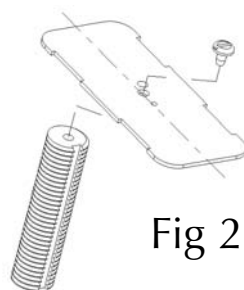

Fig 2
1. Thread the Rear Elevation Lock Nut (B) onto the threaded shank of the Rear Elevation Foot (A). Position the Nut at approximately the halfway point of the Foot shank.
2. Thread the Rear Elevation Foot into its corresponding mount at the bottom rear of the Frame and Brace Assembly (C) until the Nut makes contact with the Frame.
3. Slide the Shot Tray (D) between the upper and lower sections of the Frame with the 4 holes in line towards the front. Align the holes of the Tray with the holes in the Frame, insert four Shot Tray Retention Screws (E) through the Tray and the Frame, and secure on the underside with Shot Tray Retention Screw Nuts (F) using the 3/16" Socket Head Wrench (R) and a 1/2" wrench.
4. Insert Leg Retention Screws (H) through Tray and into Front Leg Posts (G). Secure with 3/16" Socket Head Wrench.
5. Slide Rubber Foot (I) over each Front Leg Post.
6. Attach the Cradle Plate (J) to the Center Post (L) with the Cradle Plate Screw (K) See Fig 2. The Cradle Plate features two alignment "dimples" stamped near the hole in its center. One dimple is positioned on the left-to-right centerline of the Cradle Plate, while the other is "offset" 30 degrees from the centerline. The Lead Sled utilizes the "on centerline" dimple to index the Cradle Plate to the Center Post. Align the groove in the Center Post with the dimple projecting downward while installing the screw. (Tighten securely with a Phillips screwdriver.) It may be necessary to rotate the Cradle Plate slightly in order to ensure its alignment with the frame before final tightening.
7. Start the Center Post Lock Screw (O) a few turns into its threaded hole in the Frame, but not far enough to interfere with the installation of the Center Post.
8. Thread the Elevation Wheel (M), beveled side toward the cradle plate, onto the bottom of the Center Post, approximately half its length.
9. Slip the Nylon Thrust Washer (N) over the bottom end of the Center Post, under the Elevation Wheel.
11. Attach Recoil Brace Slip Cover (P) with hook and loop strips to the Recoil Brace. (The hook and loop strips allow for removal of the Slip Cover, should the need arise.)
- b. Remove the backing from one side of the Double-Stick Tape (Q) and affix one piece of the Tape to the backside of each of the loop strips.